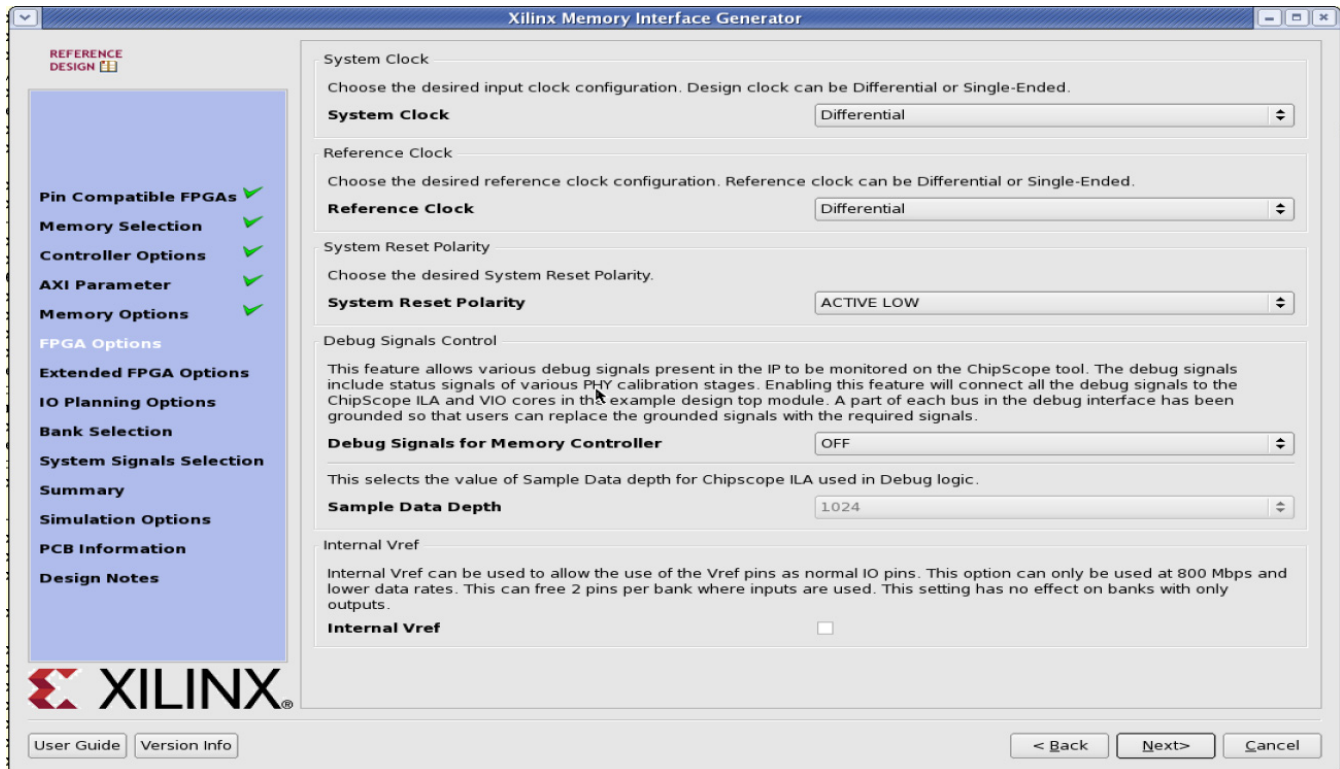

Figure 3-20: FPGA Options Page
Figure 3-20 shows the FPGA Options page.
- sys\_clk** – This is the system clock input for the memory interface and is typically connected to a low-jitter external clock source. Either a single input or a differential pair can be selected based on the **System Clock** selection in the **FPGA Options** page (Figure 3-20). The **sys\_clk** input must be in the same column as the memory interface. If this pin is connected in the same banks as the memory interface, the MIG tool selects an I/O standard compatible with the interface, such as DIFF\_HSTL\_I or HSTL\_I. If **sys\_clk** is not connected in a memory interface bank, the MIG tool selects an appropriate standard such as LVCMOS18 or LVDS. The XDC can be modified as desired after generation.
- clk\_ref** – This is the reference frequency input for the IDELAY control. This is a 200 MHz input. The **clk\_ref** input can be generated internally or connected to an external source. A single input or a differential pair can be selected based on the **System Clock** selection in the **FPGA Options** page (Figure 3-20). The I/O standard is selected in a similar way as **sys\_clk** above.
- **sys\_rst** – This is the system reset input that can be generated internally or driven from a pin. The MIG tool selects an appropriate I/O standard for the input such as LVCMOS18 and LVCMOS25 for HP and HR banks, respectively. Default polarity of `sys_rst` pin is active-Low. Polarity of `sys_rst` pin varies based on "System Reset Polarity" option chosen in **FPGA Options** page (Figure 3-20).